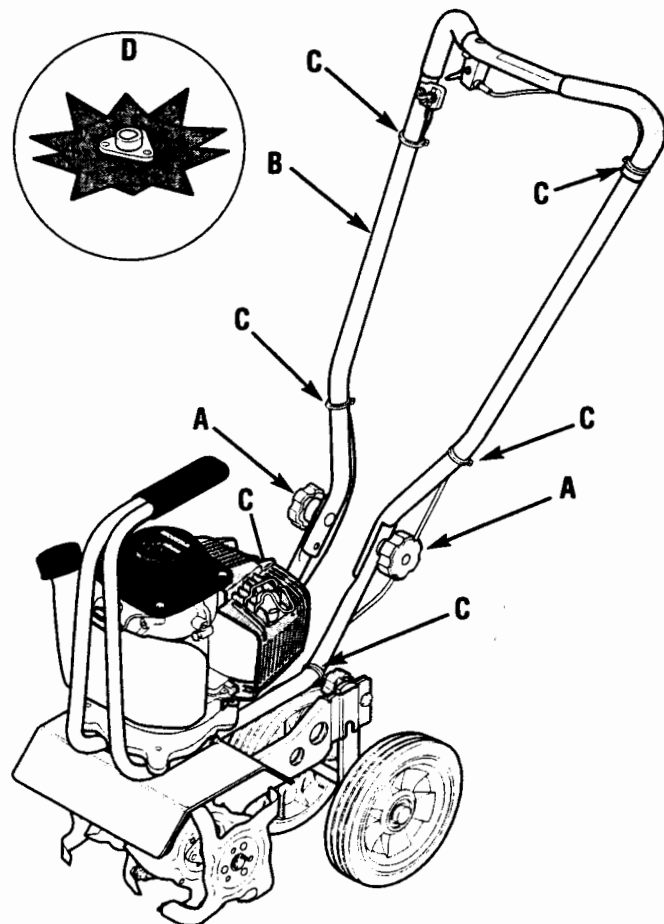

Figure 1
The Border Edger Attachment (D, Figure 1) does not need to be installed until you are ready to do edging projects (refer to instructions in Section 4).
1. Loosen the two handlebar knobs (A, Figure 1) and unfold the handlebars into the operating position. Do not use force — if there is binding, continue to loosen the knobs.
3. Check the six (6) plastic ties (C, Figure 1). Ties must be positioned as shown.